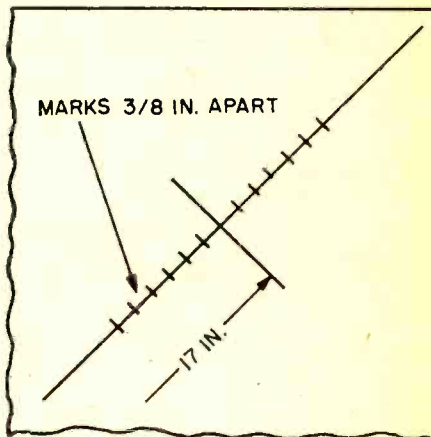

**Figure 2.** Simple 2 or 4-foot loop is built on plywood. Center pickup loop is coax connected to twisted pair lead-in shown.
**Making The Support Frame.** A very simple method of construction is as shown in Figure 2. Take a sheet of plywood some six inches larger than the size of loop desired. For a 2 foot square loop the board will need to be 2 feet 6 inches square and at least a 1/4-inch thick. For a four foot square loop the board should be at least 3/8-inch thick.